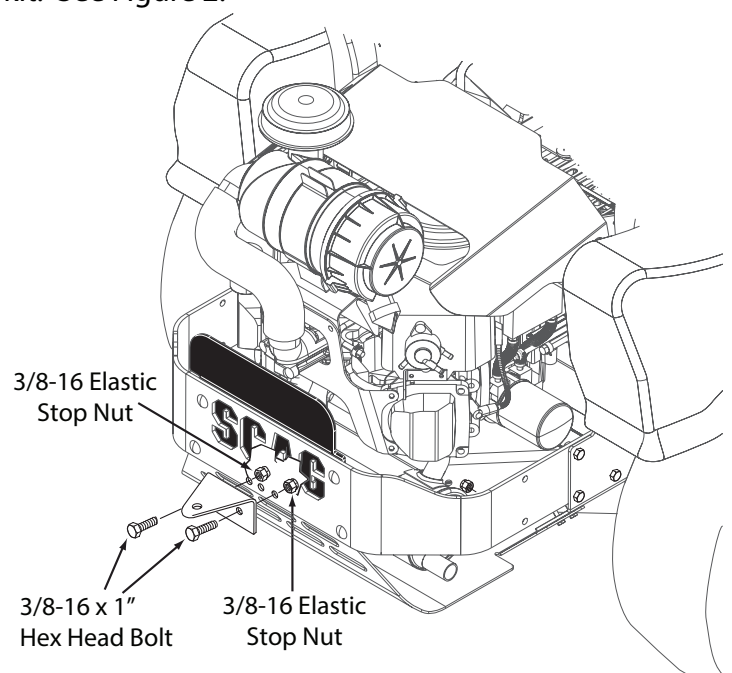

Figure 2.
8. Using two 3/8" - 16 x 1" bolts (not included in the kit), insert one bolt into each hole of the hitch and then through the rear bumper. Install and tighten the two 3/8" locknuts included in the hitch installation kit. See Figure 2.